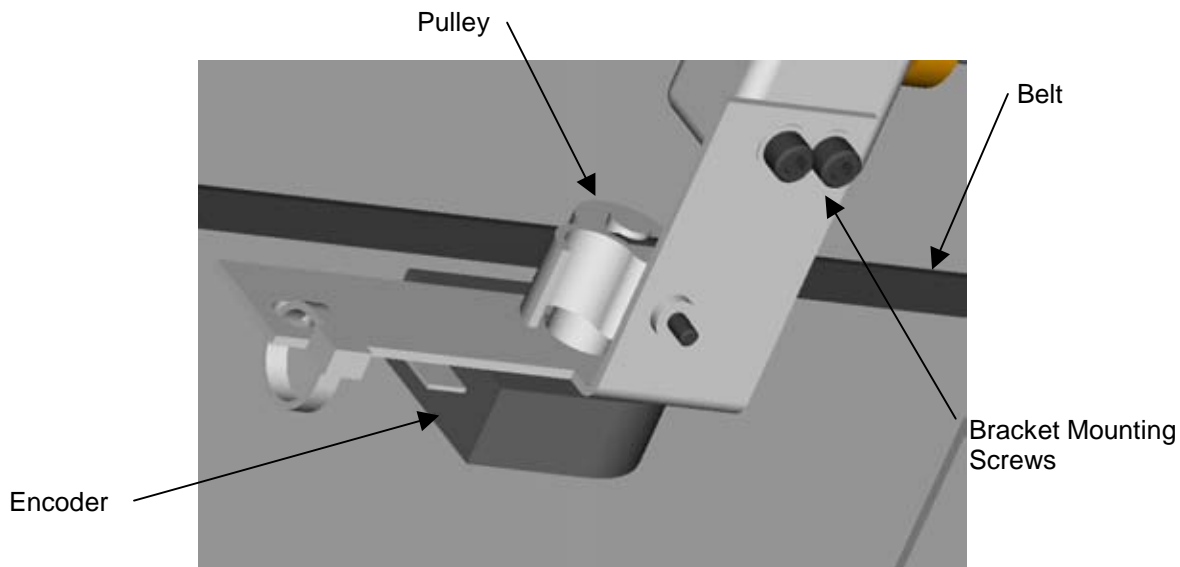

Figure 17
3. Inspect the encoder bracket and mounting screws (Figure 17). Make sure the bracket is not bent, and that the screws are tight.
4. Inspect the belt and make sure it is tight but not overstretched. If it is not, loosen the (2) screws at the rear of the machine, pull belt tight, and tighten the screws. Do not stretch the belt
5. Make sure the pulley is properly lined up with the belt (Figure 17). If not, the position of the pulley can be adjusted by loosening the pulley set screw, slide the pulley into place, and tighten the setscrew.